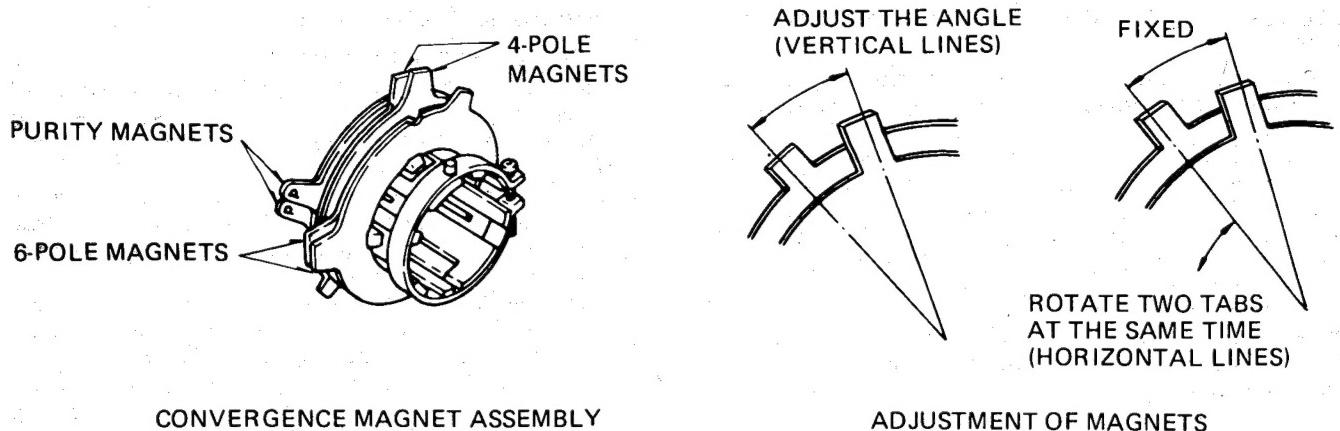

Figure 2.
3. Adjust two tabs of the 4-Pole Magnets to change the angle between them (See figure 2.) and superimpose red and blue vertical lines in the centre area of the picture screen. (See figure 3.).